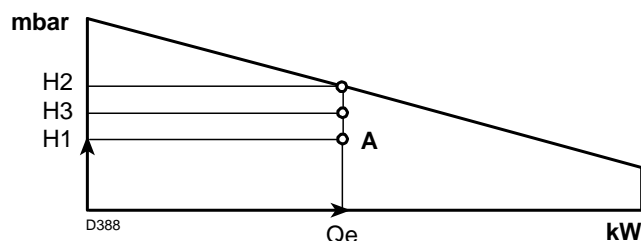

Fig. 40
point A that must remain within the firing rate (Fig. 40)
- 4 -Trace a vertical line from point A, Fig. 40, and find the maximum pressure H₂ of the firing rate
If H₃ is greater than H₁, as in Fig. 40, the burner can produce the delivery requested.